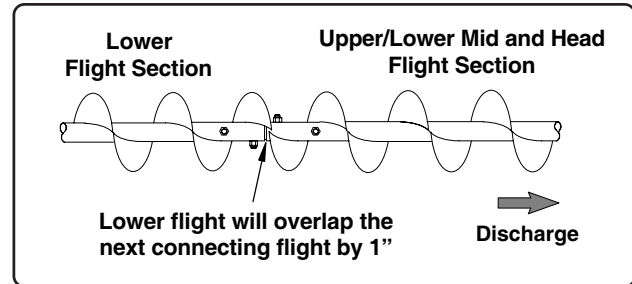

Fig. 19
**Apply an anti-seize compound** to the flight shaft and attach the flight from the mid section to the head section flight using two 5/8" x 4" black bolts and locknuts (the lower section of flighting will overlap the head section flight by approximately 1" as shown in Fig. 19).